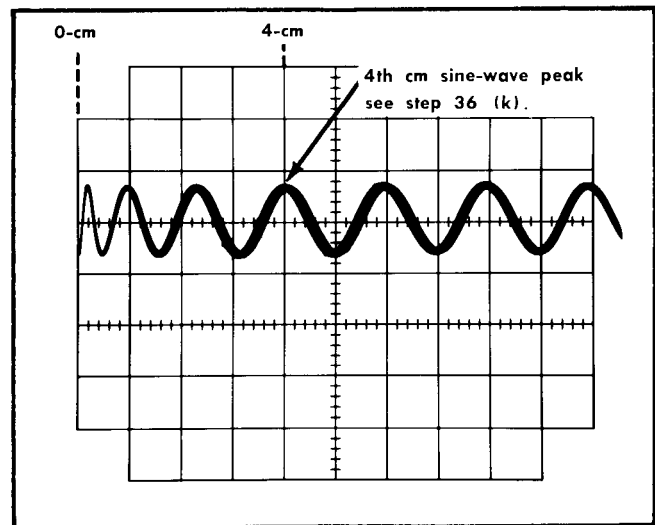

Fig. 5-6. Typical display, high-speed sweep timing, showing peak of a sine wave at the 4-cm graticule line, see step 36 (k).
k. Position the display so the Upper Beam waveform starts at the 0-cm graticule line. (Turn up the INTENSITY control temporarily to check that the waveform is properly positioned. See Fig. 5-6.)
i. Position the display so the Lower Beam waveform starts at the 0-cm graticule vertical line. (Turn up the INTENSITY control temporarily to check that the waveform is properly positioned. Use Fig. 5-6 as a guide.)